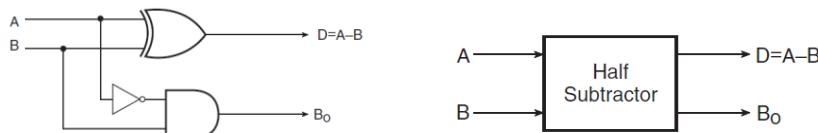

Fig. 2.10
The expression for the DIFFERENCE (D) output is that of an EX-OR gate, the expression for the BORROW output (B_0) is that of an AND gate with input A complemented before it is fed to the gate. Fig. 2.10 shows the logic implementation of a half-subtractor and its symbol.